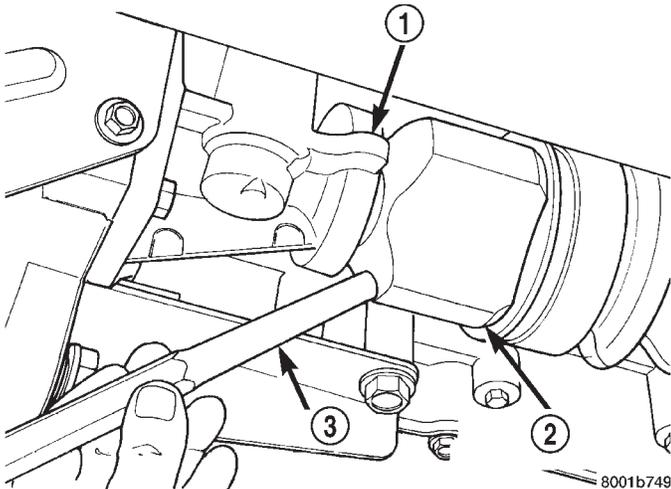
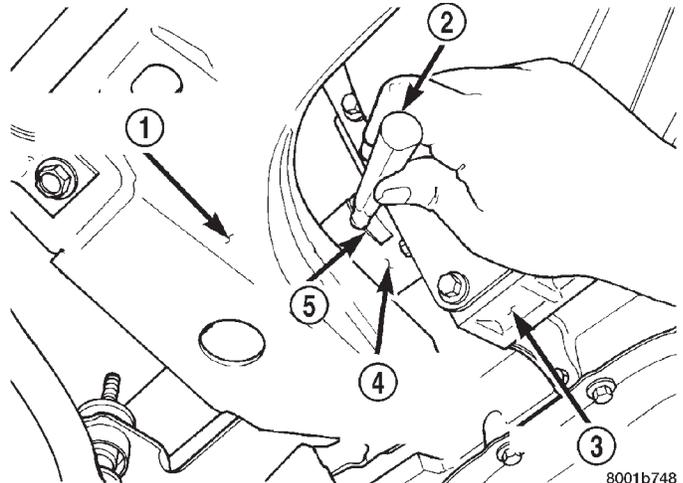

Fig. 9 Disengaging Right Inner Tripod Joint from Transaxle
Fig. 10 Disengaging Left Inner Tripod Joint from Transaxle
(11) Remove the inner tripod joints from the side gears of the transaxle using a punch to dislodge the inner tripod joint retaining ring from the transaxle side gear. If removing the right side inner tripod joint, position the punch against the inner tripod joint (Fig. 9). Strike the punch sharply with a hammer to dislodge the right inner joint from the side gear. If removing the left side inner tripod joint, position the punch in the groove of the inner tripod joint (Fig. 10). Strike the punch sharply with a hammer to dislodge the left inner tripod joint from the side gear.